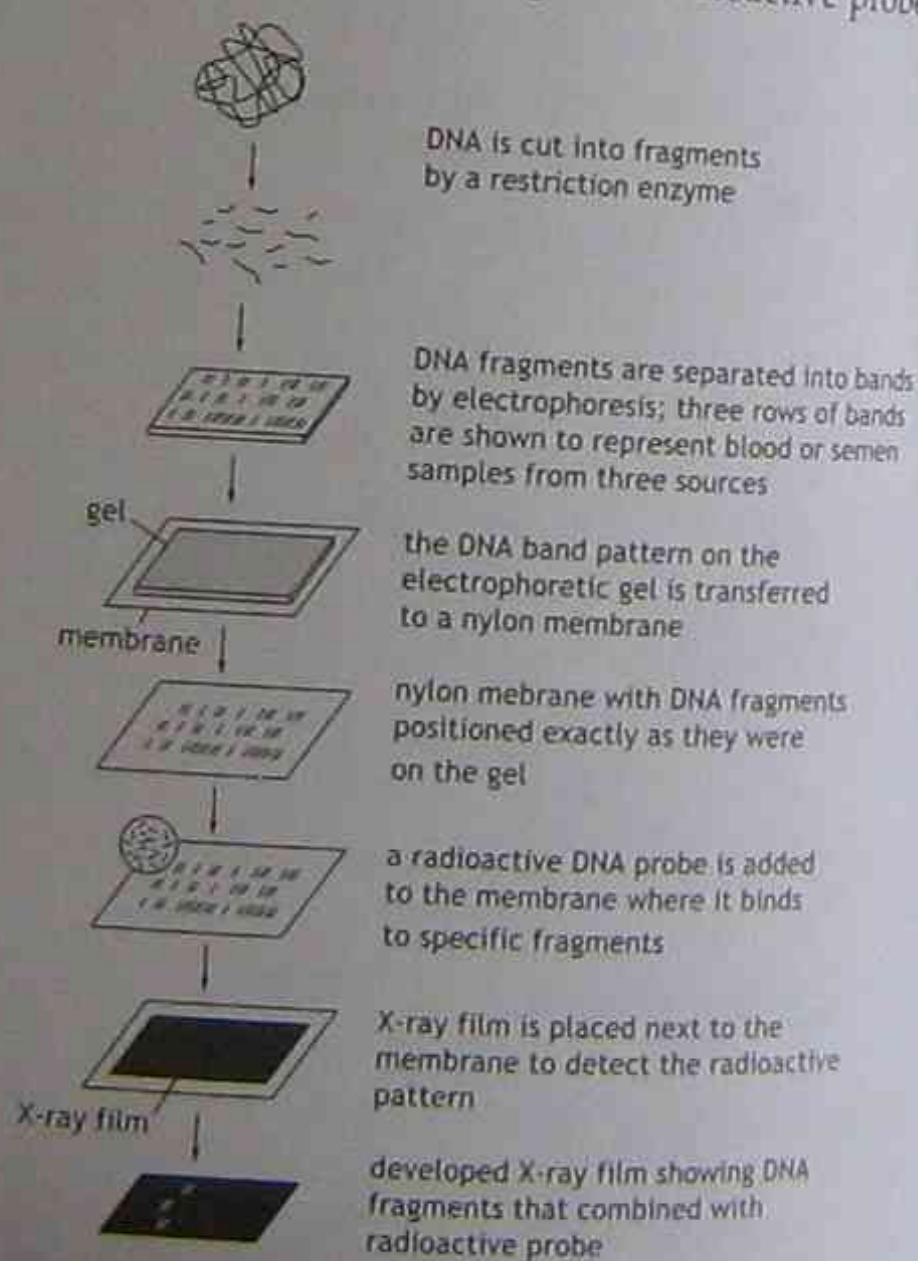

Figure 7.36 The DNA typing process (PCR reaction) using a radioactive DNA probe
Step 7. The autoradiograph looks something like a 'bar code'. The final step is the band pattern comparison. Genetic difference between individuals will be identified by differences in the location and distribution of the band patterns (see Figure 7.36).